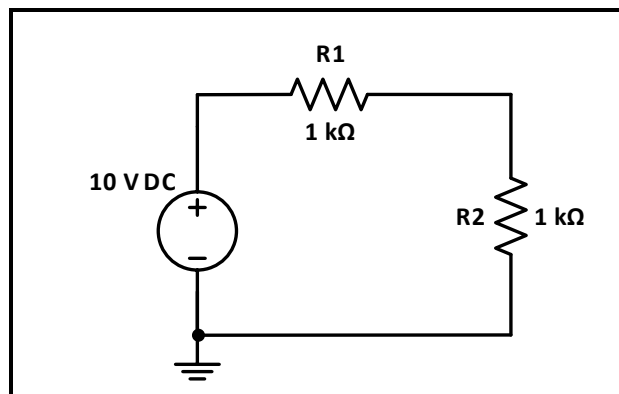

Figure 2.14
1. Connect the circuit shown in figure 2.14, set the input power supply to 10V, measure the voltage across each resistor, record and discuss results.
1. For the same circuit of figure.2.14 measure the current through each resistor, record and discuss results.